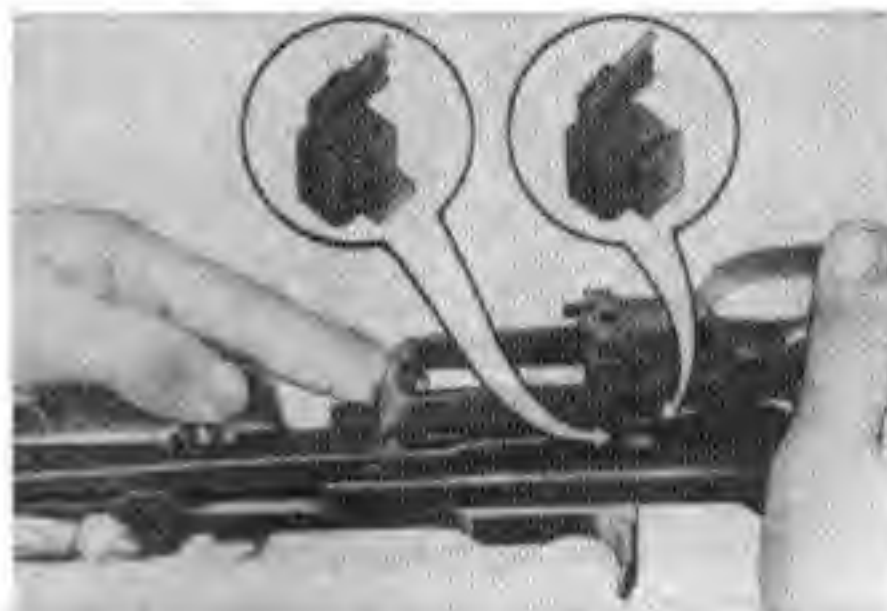

Figure 9. Removing the disconnecter lever assembly.
h. To remove the disconnecter lever assembly, push on the trigger housing and selector pin, unseating the disconnecter lever (Fig. 9). Remove the disconnecter lever assembly. If the disconnecter on your weapon has a slotted groove instead of a shoulder, disengage the rear end of the disconnecter lever before attempting to remove the disconnecter lever assembly. To do this, unseat the disconnecter lever assembly and then rotate the crank forward, disengaging the rear end of the disconnecter lever from the slotted groove of the disconnecter (Fig. 10). Now, remove the disconnecter lever assembly.